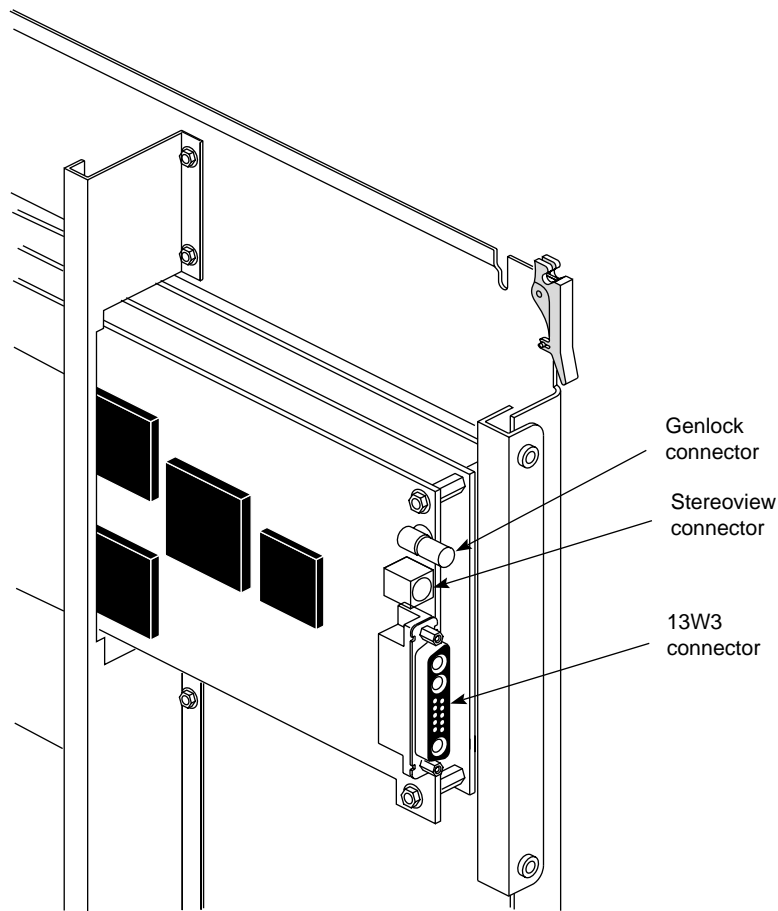

Figure 2-3 Extreme Board Set I/O Connectors
10. Connect the 13W3, Genlock, and Stereoview connectors to the Extreme board, (see Figure 2-3).